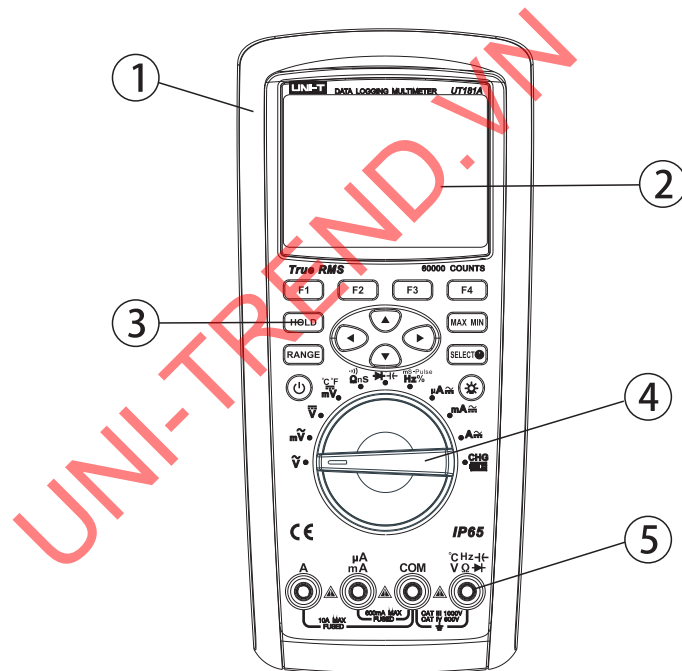

Figure 1
V. Meter Structure (see Figure 1)